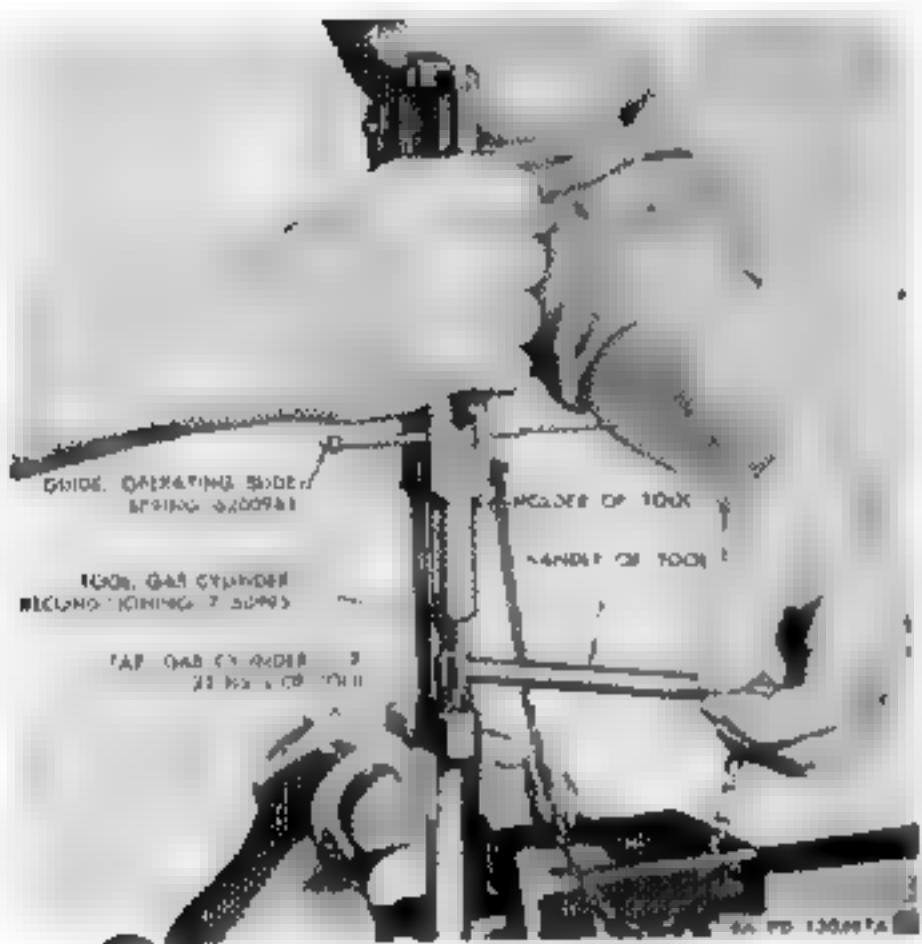

Figure 83. Chasing gas cylinder thread.
Note. When using the head space gage, disengage the bolt from the operating slide. There are two types of head space gages assigned the same stock numbers for same sizes. If the gage is of the design that has a rim, place the rim carefully under the extractor against the face of the bolt (Fig. 83), if the extractor is assembled, thereby avoiding snapping the extractor over the gage. When the other type (shouldered), is used, it is inserted into the chamber first and the bolt closed on it. In closing the bolt to check the depth of the chamber, exert only the lightest finger pressure and make sure that the hammer does not exert pressure against the bolt.
a. *Chasing Gas Cylinder Thread.* Chase threads of the gas cylinder, using gas cylinder tap member of tool 7160995 (Fig. 83). Dip tap in a cutting oil and start tap carefully in gas cylinder. Cut threads a little at a time, using a forward and backward movement. Exercise care to stop tap as soon as it
b. *Gas Cylinder Piston and Nut.* Insert gas cylinder piston into cylinder and screw cylinder piston nut into the threads using gas cylinder reconditioning tool 7160995 (Fig. 83) (with component wrench). Make certain to stake the cylinder lightly into the nut, in one of the three places provided, or the nut may work loose during the firing of the carbine. After the piston and nut are assembled in the gas cylinder, check to assure that there is no binding (page 82).